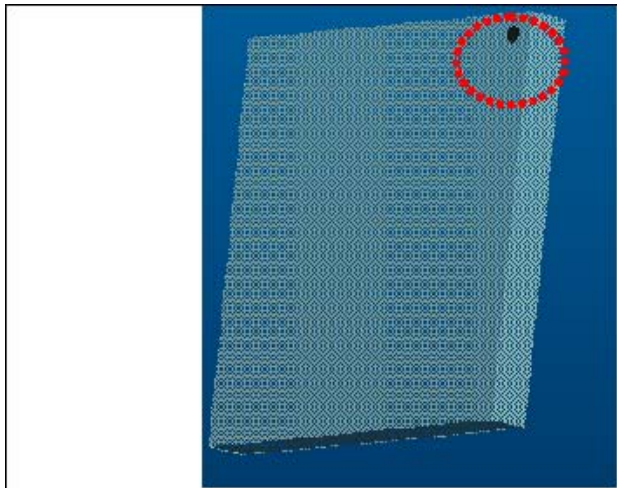

Figure 1-5
- i. Front Glass UV coated surface (marked) must face to Lamp. (Figure 1-5)